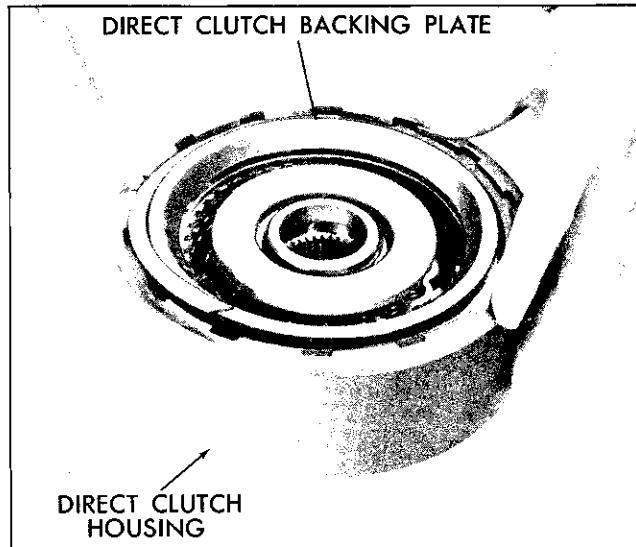

Fig. 7E-90 Removing Direct Clutch Backing Plate Snap Ring
12. Place forward clutch housing on pump delivery sleeve and air check clutch operation (Fig. 7E-88).